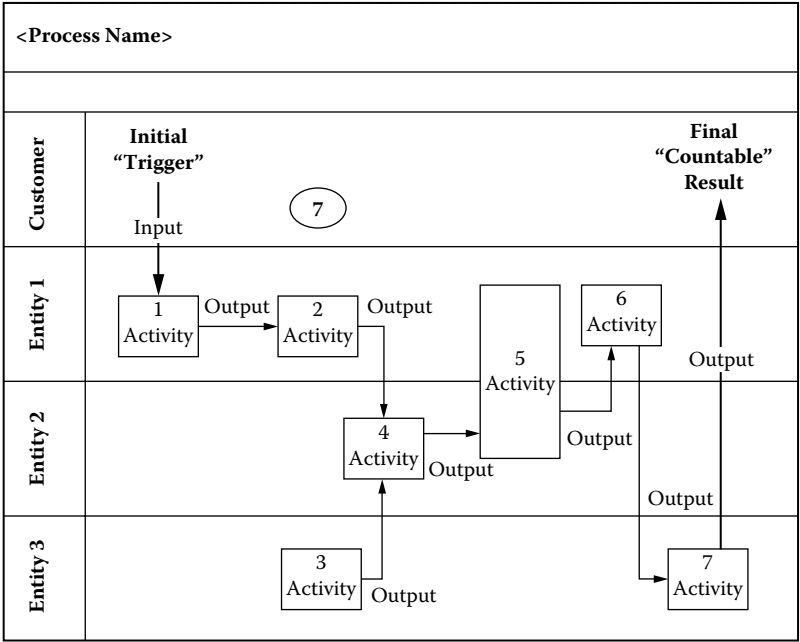

Figure 5.21 Swimlane diagram using “mapping” software.
- 7. Use application software to document the map (Figure 5.21). Take digital picture(s) of the map on the wall (especially if you want to chronicle its development).